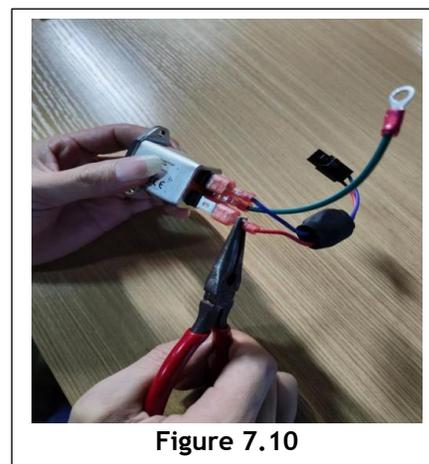

Figure 7.10
8. Using Insulated Needle Nose Pliers, disconnect the Power Supply Harnesses from the Mains Connector. **See Figure 7.10.**